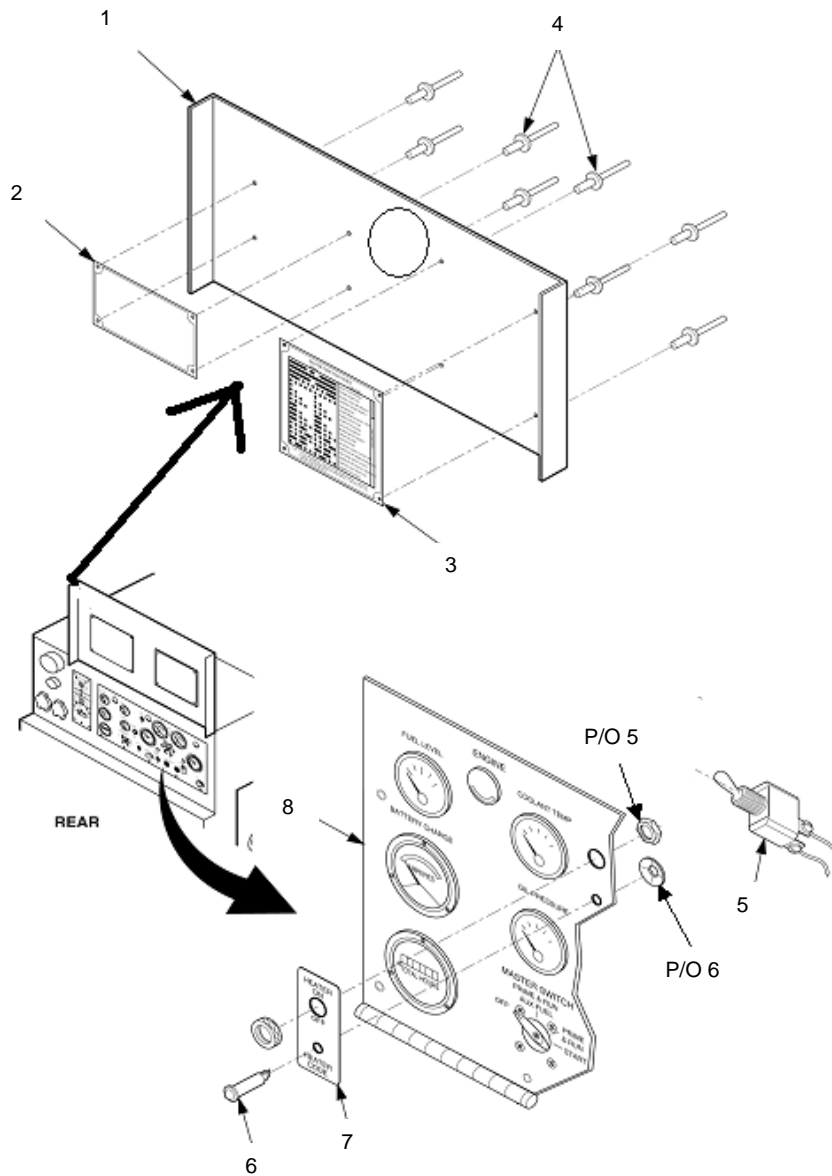

Figure 4-38. Cover And Instrument Panel Removal
7. Remove toggle switch (5), Figure 4-38, indicator light (6), and heater switch label (7) from instrument panel (8). Remove rivets (4) from operating plate (2) and function code plate (3). Remove operating and function code plate (2 and 3) from control panel door (1).